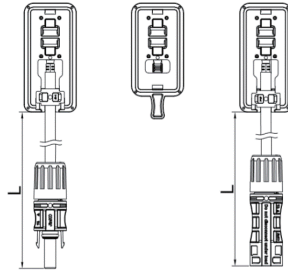

Figure 8 The half-cut cell module/split junction box
- Three split junction boxes (see in Figure 8) with IP68 installed in Hiconics modules provide the necessary safety protection for cable and wiring connections, including contact protection of non-insulating electric parts.